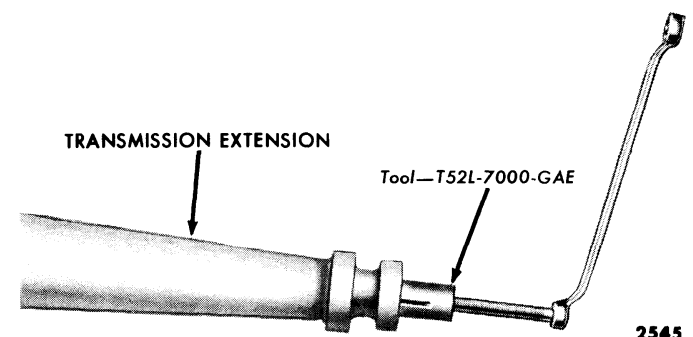

Fig. 15—Oil Seal and Bushing Removal
(6) **TRANSMISSION EXTENSION HOUSING.** Remove the oil seal and bushing from the extension housing with the tool shown in fig. 15.